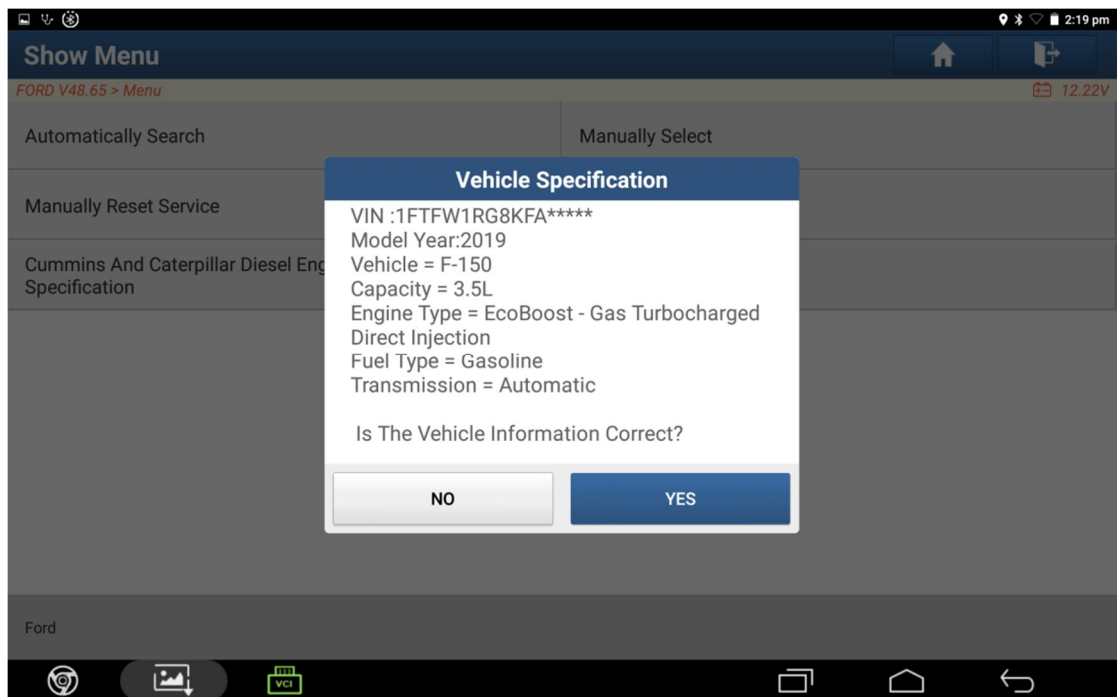

Figure 3
2. Confirm current vehicle information (Figure 3).